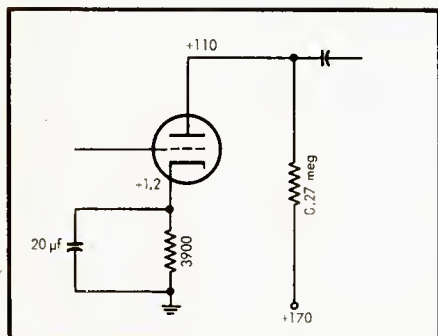

Fig. 1. Typical schematic of input stage of a high-gain amplifier with cathode resistor bypassed in the customary fashion.
A 20-μf capacitor at the power line frequency of 60 cps has a reactance of about 130 ohms. *Figure 1* shows a common circuit of a triode with the 20-μf capacitor placing the cathode 130 ohms above ground and the 3900 ohm resistor providing a d.c. bias on the tube of 1.2 volts.
The writer had long used a standard two-way speaker, with the woofer in an 8-cu. ft. bass-reflex box of conventional design, and while the reproduction quality has been considered excellent, the low-frequency output did not compare with that of a good theatre system. Thinking from this point, the next step appeared to be in the direction of a corner speaker, yet utilizing the reflex action of a vented cabinet. Basically, therefore, the new design could still be described as a bass-reflex cabinet, but it occupies the corner of a room and is arranged so that the vents are loaded by a horn comprised of the walls and the sides of the cabinet enclosure. The plan view of the cabinet is shown in Fig. 1, with the vent openings A-A' along the sides. Thus the vents are loaded by the straight-sided "horn" between the wall and the cabinet.
Fig. 1 (above). Plan view of the new design, showing vents at either side between the cabinet and the wall and the horn loading provided by the wall and the cabinet sides.
Getting down to a specific design, therefore, the cabinet takes the shape shown in Fig. 1, for a cross section at the plane of the low-frequency cone, and at (A) of Fig. 3 at the plane of the center of the TV picture tube. The top of the low-frequency cabinet has the outline shown in the solid line at (B), with the superstructure shown by the dotted lines. The top is 39 inches from the floor, and the corners of the top meet the side wall $36\frac{1}{2}$ inches from the corner. Allowing for the volume of the speaker well and speaker end of the tube enclosure, the net volume of the cabinet is 8.5 cu. ft. This does not include the